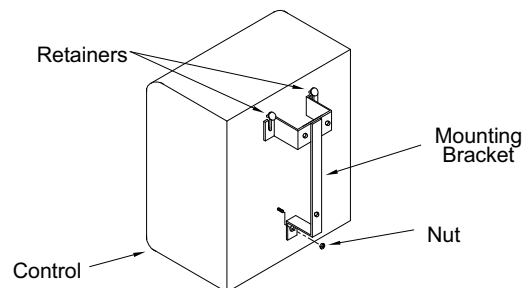

FIGURE 9
6. Secure the manifold in place by sliding the round retainers on the back of the cabinet into the slots on the bracket. Replace the nut on the bolt which protrudes from the case and tighten lightly. This bolt only stabilizes the bottom of the unit and is not load-bearing. (Figure 9)